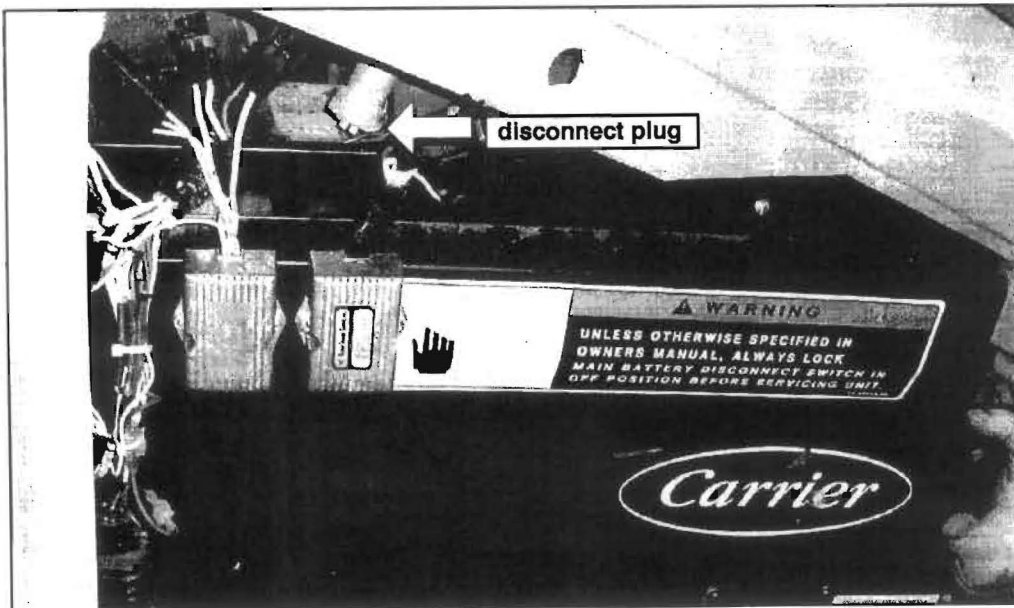

Figure 5.
9. Disconnect the round 5-pin Deutsch plug (Figure 5) (if applicable).
10. Align and re-install the access panel (Figure 5).